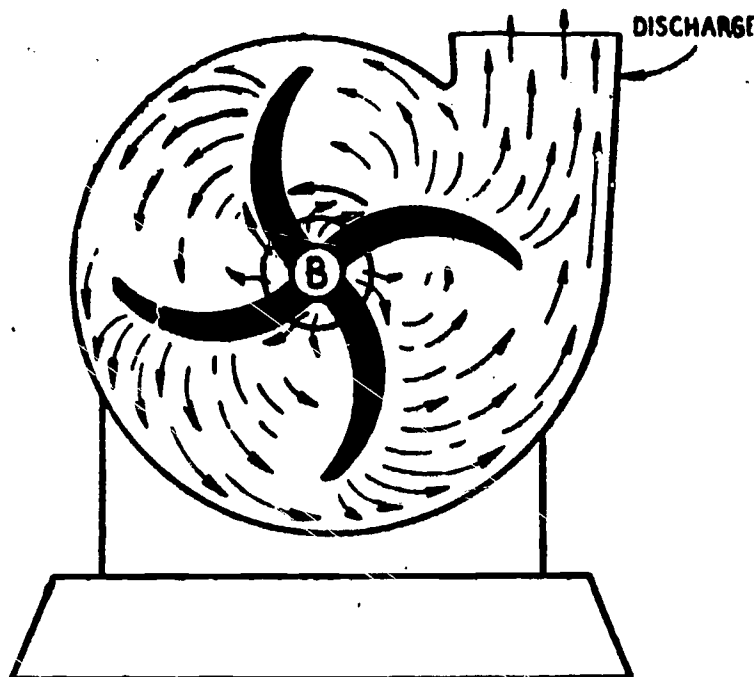

Fig. 7 Centrifugal pump.
**WATER PUMP** - All Cummins water pumps are of the "volute" centrifugal curved impeller type pump. Figure 7 is a simplified diagram showing how this type of pump operates.